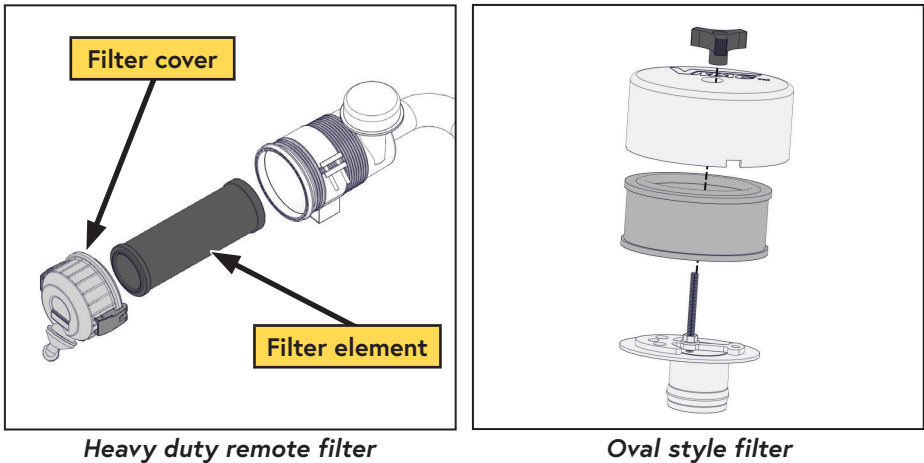

Figure 23 — Install air filter element
- ☐ Replace the cover and secure it with the cover nut. Do not over-tighten the nut (Figure 23).